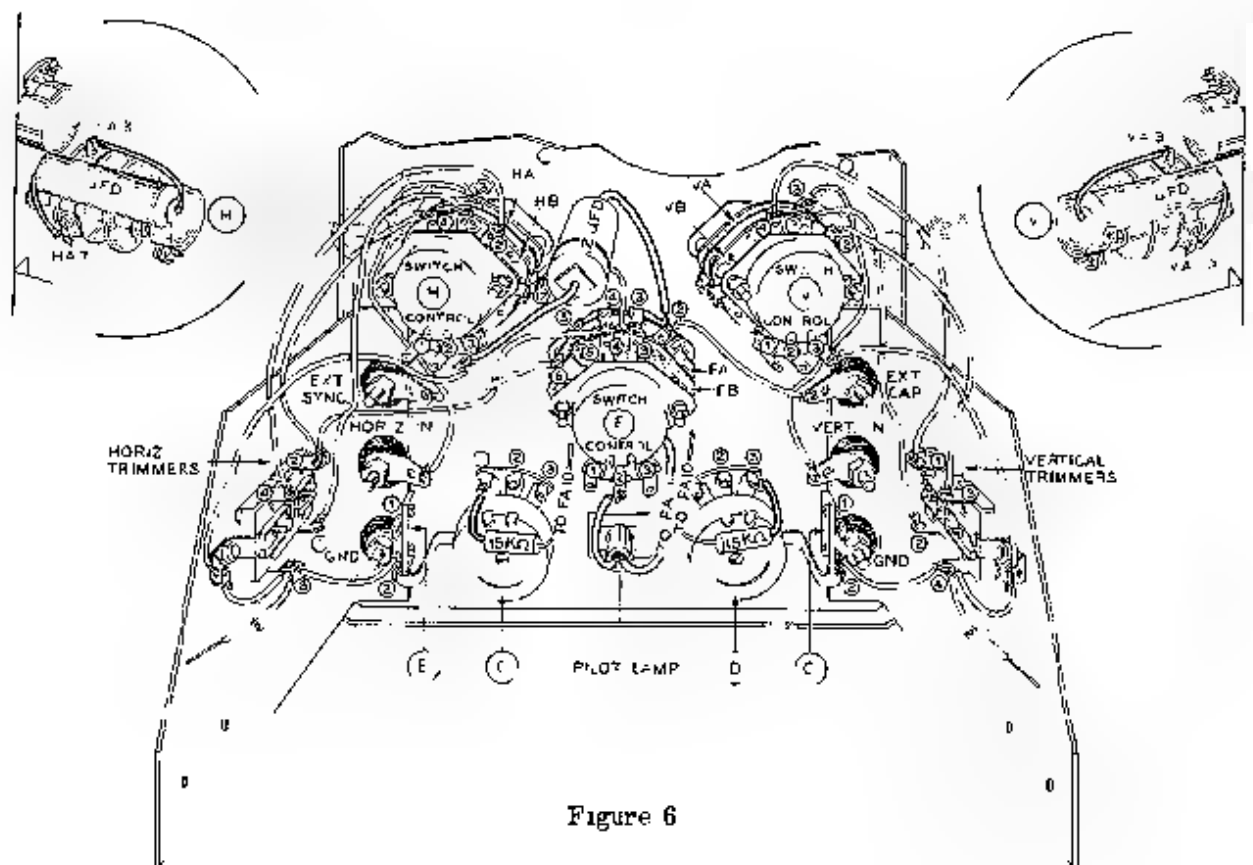

Figure 6
Refer to Figure 6 for the following steps.
- (✓) Mount FREQUENCY switch F (#63-200) on the front panel using a control lockwasher, control flat washer and a control nut. Orient the switch as shown in Figure 6.
- (✓) Cut off the excess length from the free lead of the 15 K Ω resistor coming from lug 3 of control D. Now connect this lead to switch lug FA10 (NS).
- (✓) Cut the other pilot lamp lead to 1 3/4" and place 1-1/2" of sleeving over it. Now connect this lead to lug 2 of control F (NS).
- (✓) C-13. Connect a .1 μ fd 600 V capacitor from switch lug HA3 (NS) to HA7 (S-1). Orient as shown and use sleeving on each lead.